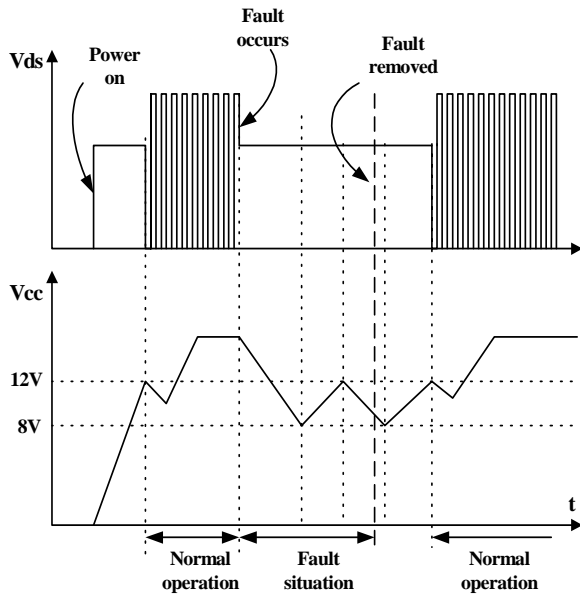

Figure 6. Auto restart operation
3. Protection Circuit : The FSDM07652R has several self protective functions such as over load protection (OLP), abnormal over current protection (AOCP), over voltage protection (OVP) and thermal shutdown (TSD). Because these protection circuits are fully integrated into the IC without external components, the reliability can be improved without increasing cost. Once the fault condition occurs, switching is terminated and the Sense FET remains off. This causes Vcc to fall. When Vcc reaches the UVLO stop voltage, 8V, the protection is reset and the internal high voltage current source charges the Vcc capacitor via the Vstr pin. When Vcc reaches the UVLO start voltage, 12V, the FPSTM resumes its normal operation. In this manner, the auto-restart can alternately enable and disable the switching of the power Sense FET until the fault condition is eliminated (see figure 6).